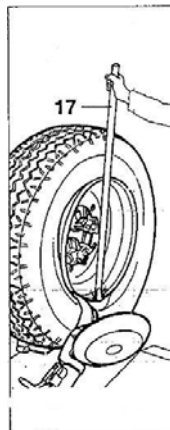

Fig.7.6
- B. Rotate the wheel and at the same time move the hook tool forward inserting it between rim and bead until it is anchored to the bead (See Fig.7.6).
- E. Insert lever LA (17, Fig.7.6) between rim and bead at the right of the tool.
L. Insert lever LA (17, Fig.7.6), between rim and bead at the right of the tool.